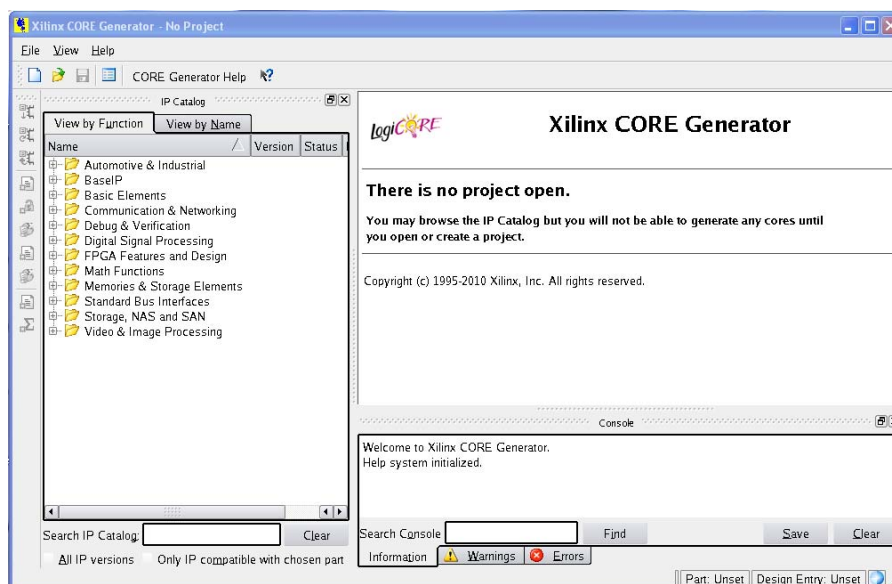

Figure 2-1: CORE Generator Window
2. The IP core functional categories appear at the left side of the window (Figure 2-1).